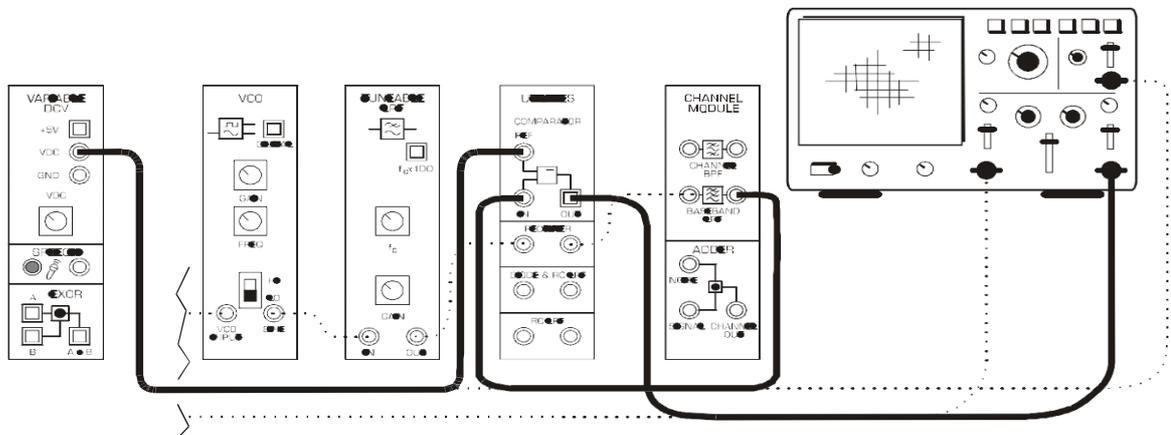

Figure 8: the set-up for a digital signal restoration
- Modify the set-up as shown in Figure 8 below.